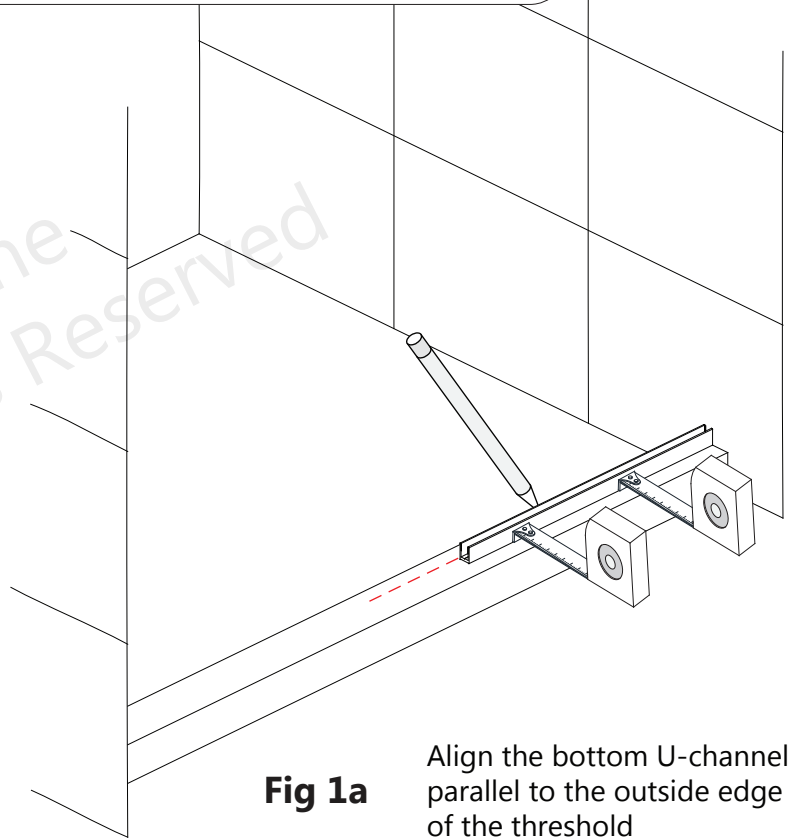
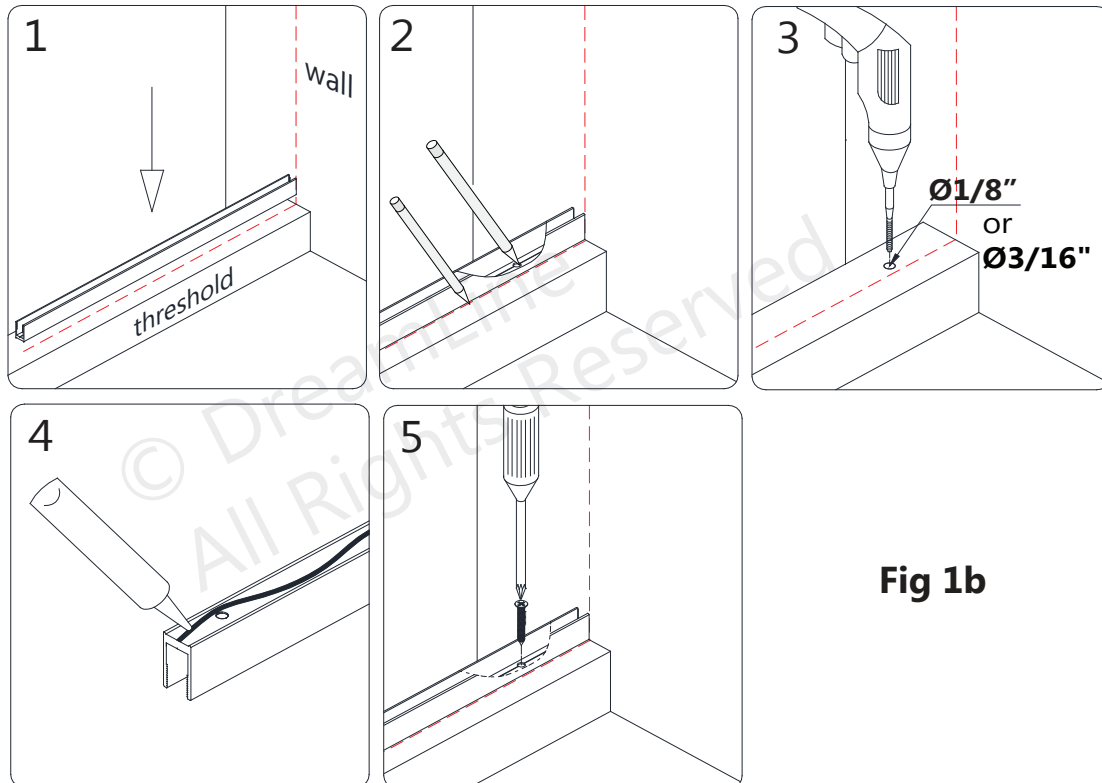

Fig 1a
Fig 1b
(Fig 1b.3)
- Apply a bead of silicone to the bottom of the **Bottom U-Channel (34") (#29)** and attach it to the threshold using the **ST4.0 x 40 Pan Head Screws (#23)**. (Fig 1a and Fig 1b)